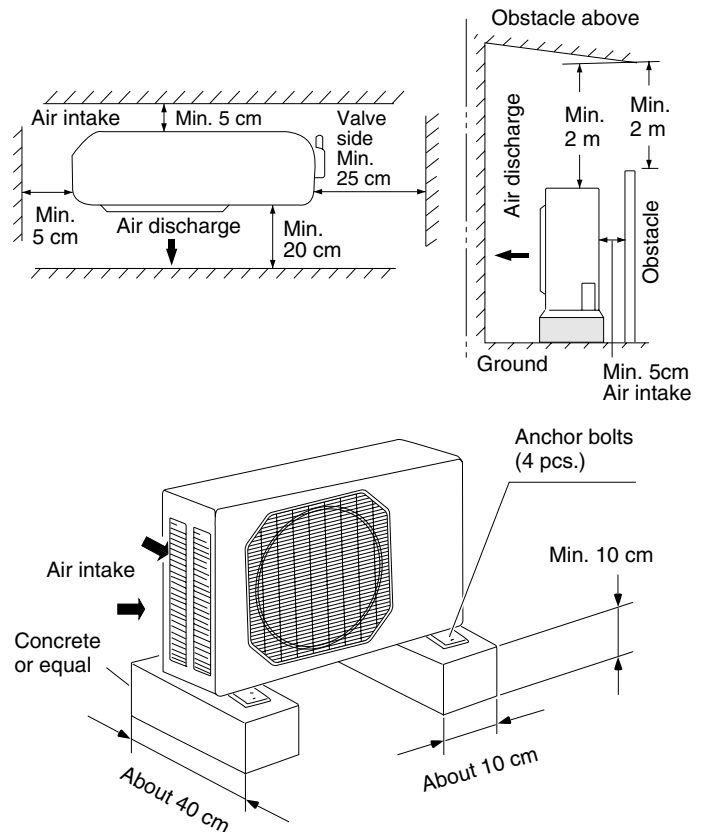

Fig. 5a
- allow enough room around the unit for air intake/exhaust and possible maintenance. (Fig. 5a)
- provide a solid base (level concrete pad, concrete block, 10 × 40 cm beams or equal), a minimum of 10 cm above ground level to reduce humidity and protect the unit against possible water damage and decreased service life. (Fig. 5a)